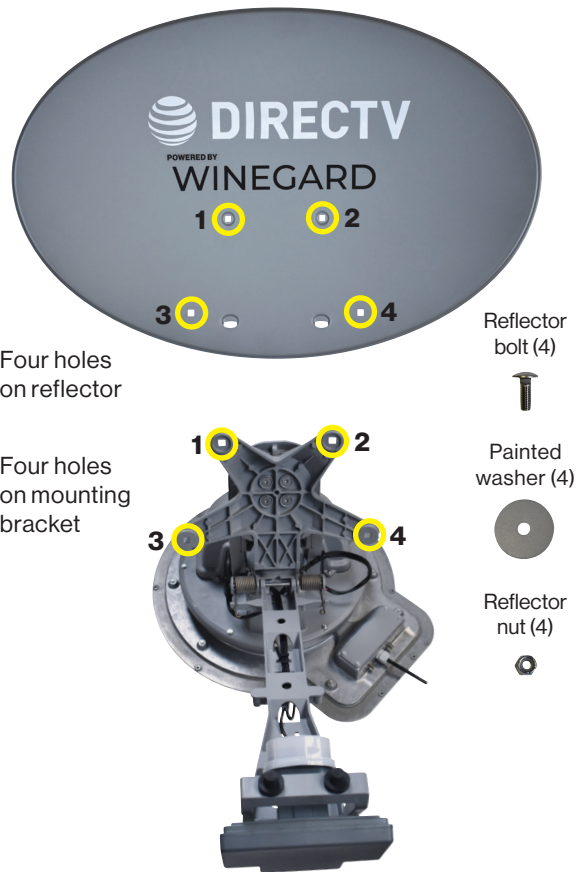

FIGURE 9. Reflector alignment points
7. Line up the four holes on the reflector with the four holes on the mounting bracket. Insert a reflector bolt through one of the four holes on the back of the reflector. Insert one painted washer and thread a nyloc nut onto each bolt, tighten the nut to secure the reflector to the mounting bracket, making sure to tighten the nut until it is flush with the washer. Overtightening will bend the washer. Repeat process until all four holes are secure. See figures 9 and 10.